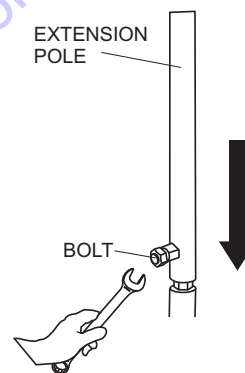

Figure 9. Attaching Extension Pole
5. If desired, attach extension pole to the top of the mast as shown in Figure 9.